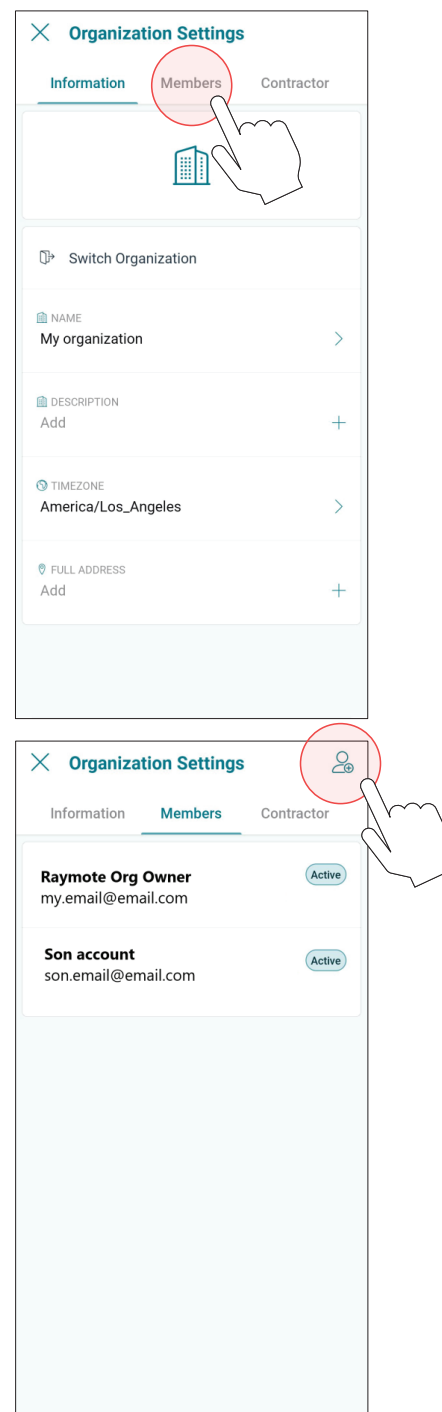

Figure 112. Invite a New Member to your Organization
4. Click on the top-right icon to [Invite a New Member]. See Figure 112 and Figure 113.